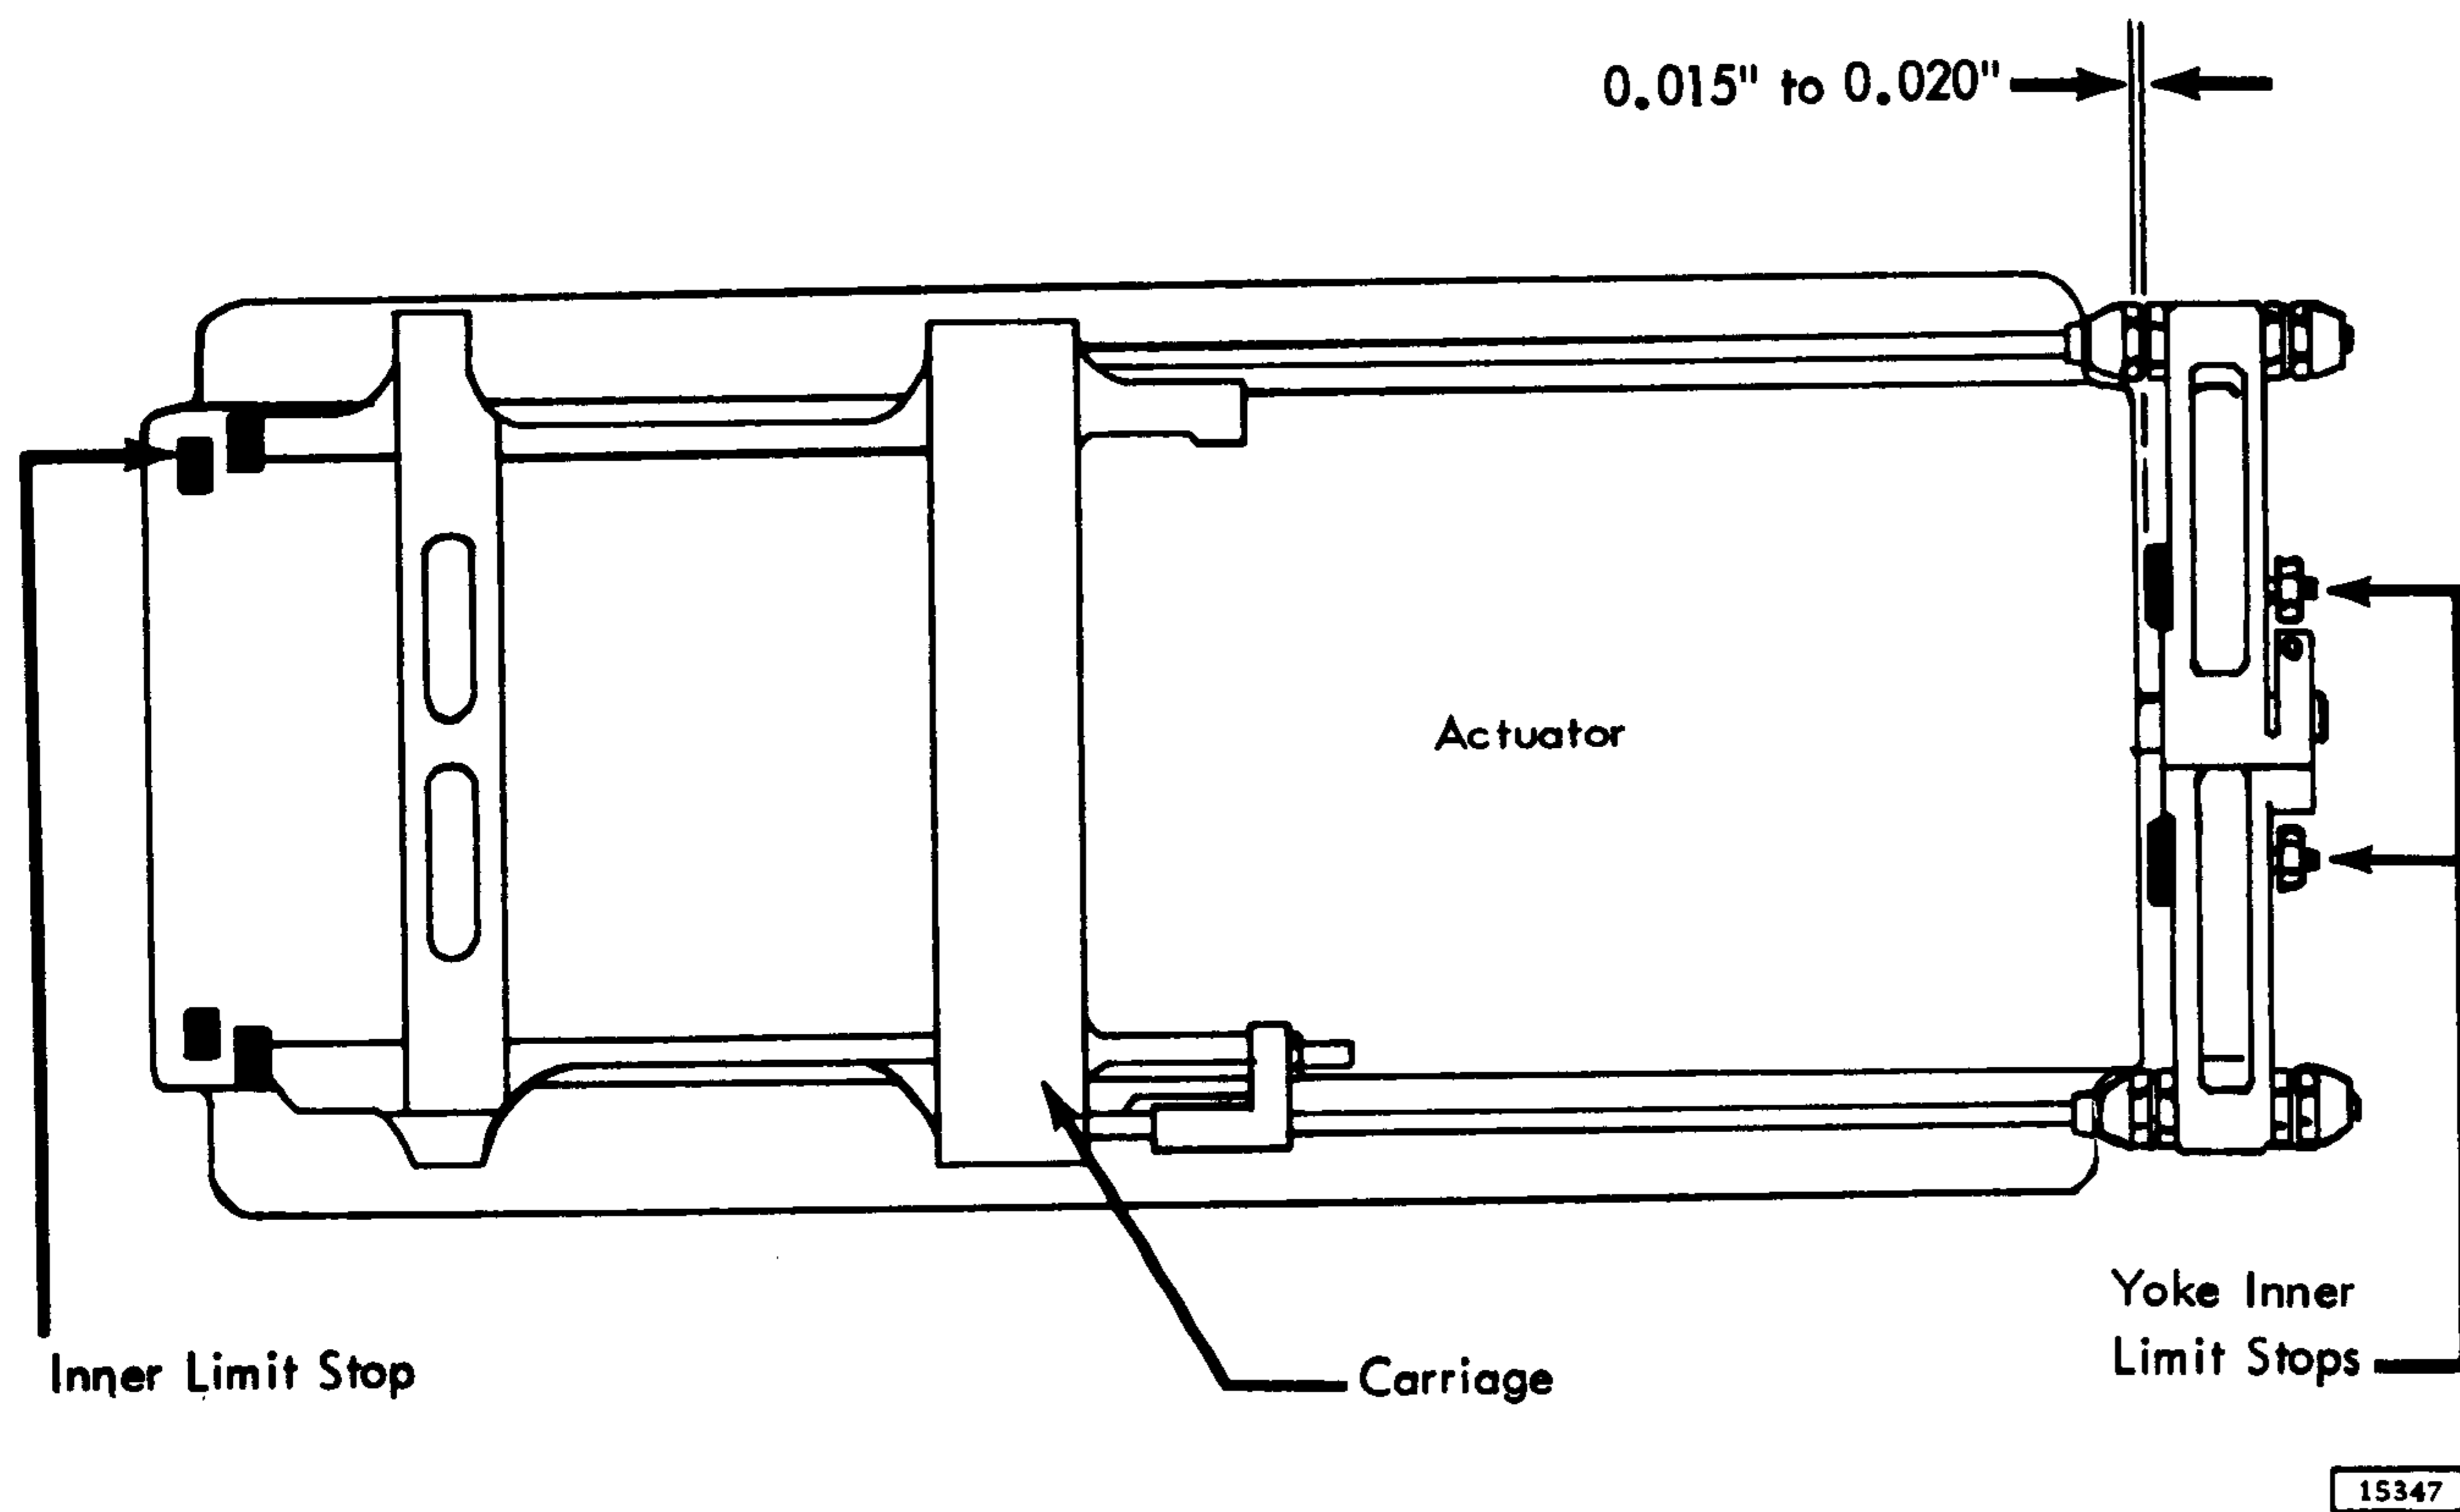

Figure 4-32. Yoke Inner Limit Stop Adjustment
4. 12. 3 Yoke Inner Limit Stops (Figure 4-32)